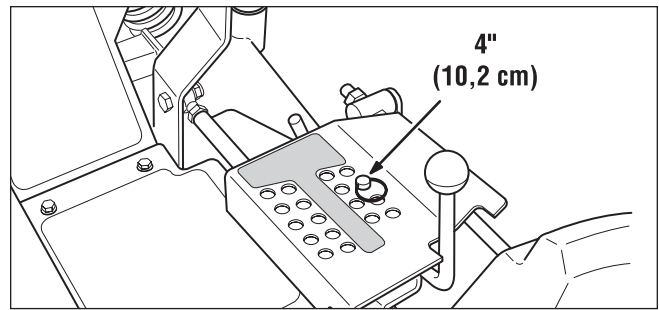

Figure 42. Deck Height Pin Position
2. Install the cutting height adjustment pin in the 4" (10,2 cm) position. See Figure 42.